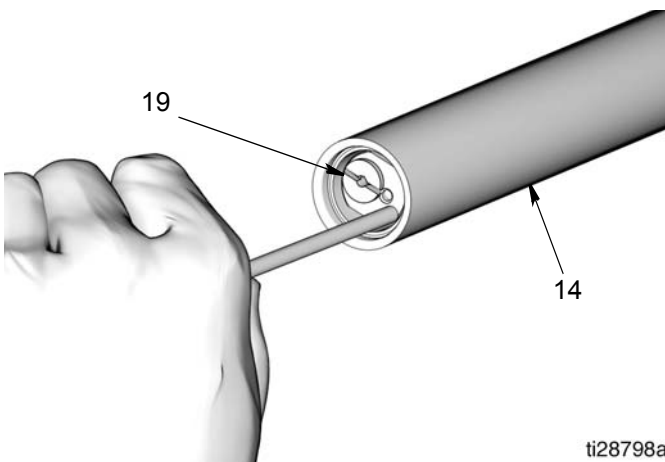

FIG. 29
3. Use a smooth, long brass or aluminum rod, free of sharp edges and burrs, to push the check valve assembly (19) into place in the outlet tube (14) (FIG. 29).